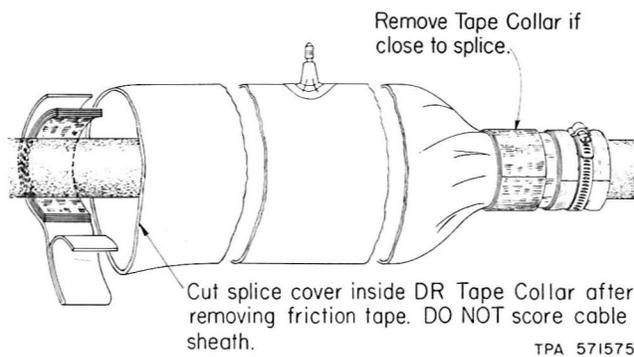

Fig. 11—Removing Cover
**8.02** Cut the splice cover just inside the DR tape collar. Remove the used portion of the splice cover and DR tape collar (Fig. 11).